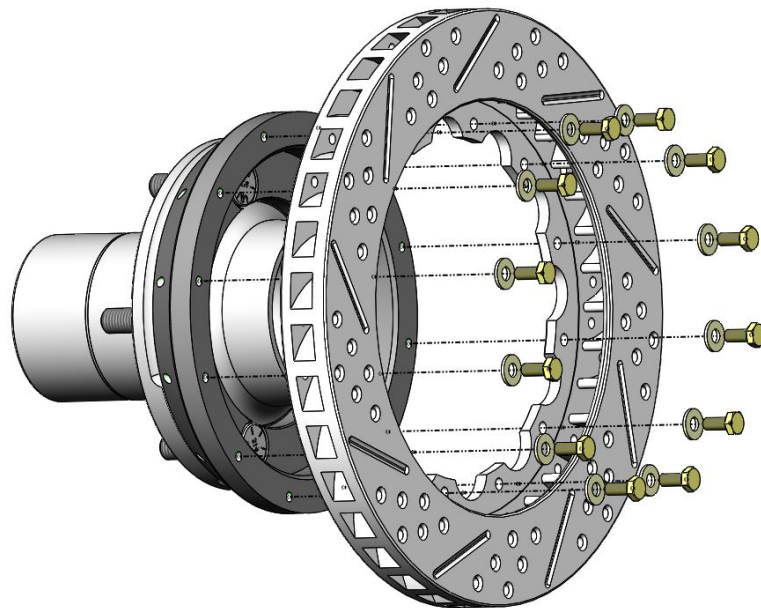

Figure 2 – Rotor Ring Installation
6. With the center hat installed on the OE hub, place the outer rotor ring on the hat lining up the outer bolt holes. Using the provided 1/4"-20 x 3/4" Grade 8 Hex Head Bolts and 1/4" AN Flatwashers, thread the bolts into the hat and torque to 35 ft/lbs. Medium Strength Blue Loctite is recommended for each bolt. Refer to Figure 2 below for assembly.